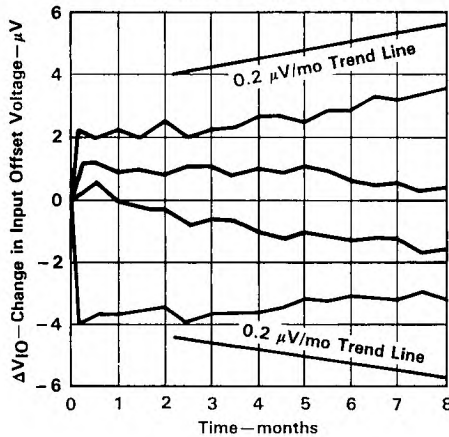

FIGURE 3
4. Long-term drift of input offset voltage refers to the average trend line of offset voltage versus time over extended periods after the first 30 days of operation. Excluding the initial hour of operation, changes in V_{IO} during the first 30 days are typically 2.5 μV . See Figure 3.